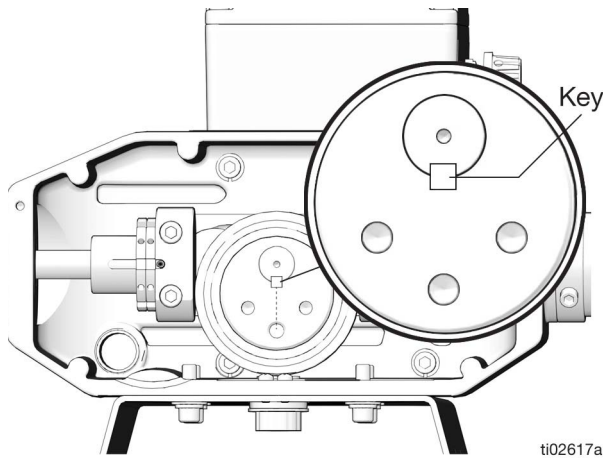

FIG. 28:
2. Remove the two screws (24).
3. Remove the housing drive guard (23).
4. Use two hex keys to rotate the cam (12) of the shaft key (15) is in the down position (FIG. 28).